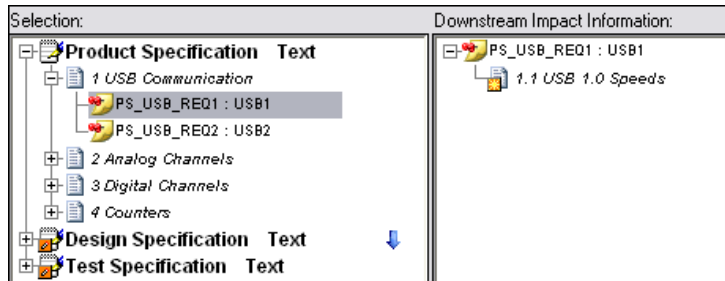

Figure 3-12. PS_USB_REQ1 Downstream Impact Analysis
- Expand the **Product Specification** document in the Selection column and select the **PS_USB_REQ1** requirement. The Downstream Impact Information column displays only the covering 1.1 USB 1.0 Speeds section from the Design Specification document, as shown in Figure 3-12, because the 1.1 USB 1.0 Speeds section does not contain any non-derived requirements that the Test Specification document covers.